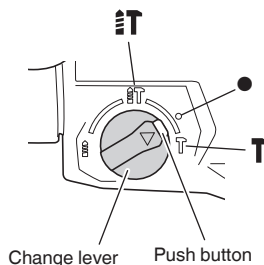
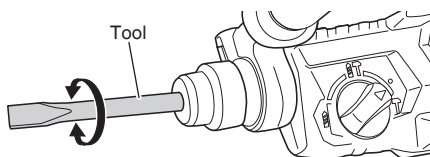

Fig. 12
Fig. 13
- (1) Mount the tool. (Bull point, cold chisel etc.)
- (2) Press the push button and set the change lever to ● mark between **T** mark and **T** mark (Fig. 12). The rotation is released, turn and adjust the tool to desired position (Fig. 13).